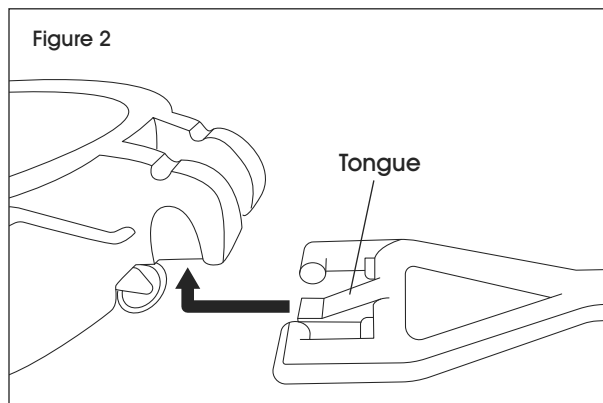

Figure 2
5. Place bogie upright and lay handle next to bogie with tongue facing upward. (See Figure 2)
6. Slide handle in and up to connect into bogie. (See Figure 2)